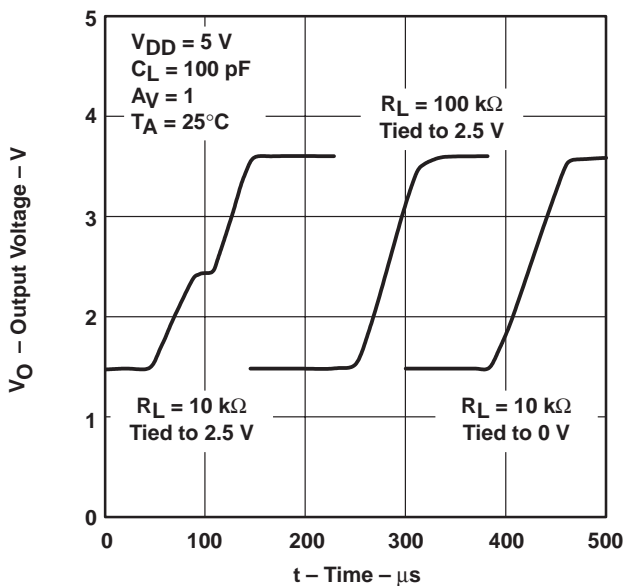

Figure 39
- Where the load is referenced. When the load is referenced to either rail, this condition does not occur. The distortion occurs only when the output signal swings through the point where the load is referenced. Figure 39 illustrates two 10-k Ω load conditions. The first load condition shows the distortion seen for a 10-k Ω load tied to 2.5 V. The third load condition shows no distortion for a 10-k Ω load tied to 0 V.
- Load resistance. As the load resistance increases, the distortion seen on the output decreases. Figure 39 illustrates the difference seen on the output for a 10-k Ω load and a 100-k Ω load with both tied to 2.5 V.